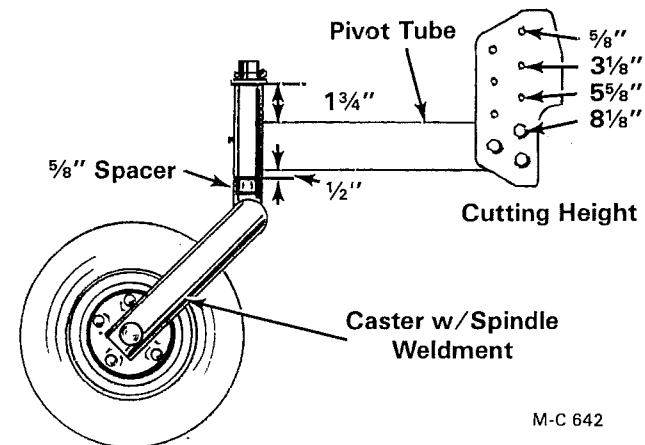

Figure 8
A. When the caster wheel pivot tube is assembled to the caster w/spindle weldment with the long part of the pivot tube ($1\frac{3}{4}$ ") at the top as shown in Figure 8, the cutting height range is $\frac{5}{8}$ " to $8\frac{1}{8}$ " , see note.
NOTE: Moving the caster spacer, Figures 8 and 9, from the bottom to the top of the pivot tube will decrease all cutting heights by $\frac{5}{8}$ " .
2. Assemble the caster wheel pivot tube to the caster w/spindle as shown in Figure 8 or 9 depending on the cutting height desired.